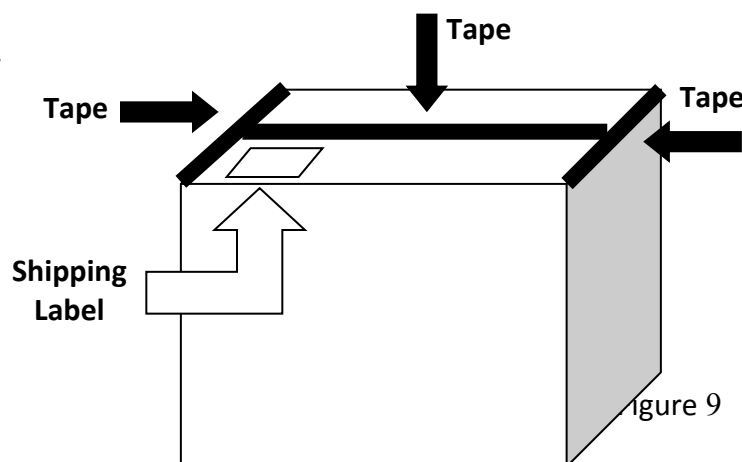

Figure 9
3. Use the tape provided to seal the box. Remove any old labels on the box and place the return shipping label provided on the top of the box (Figure 9).